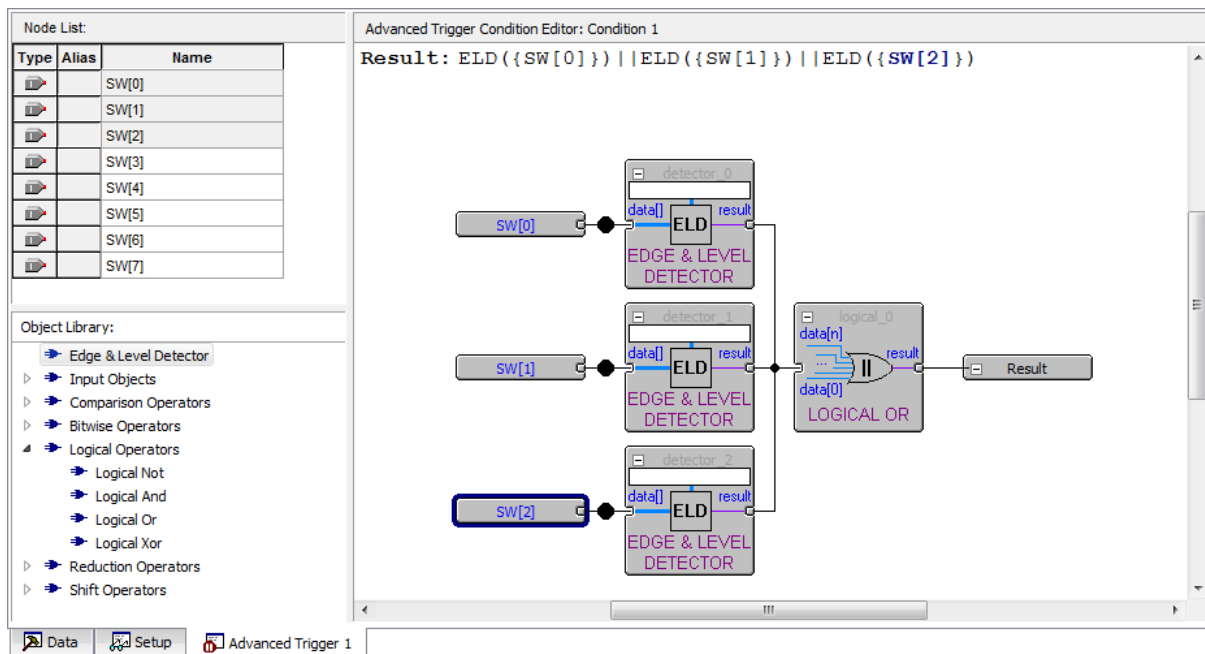

Figure 20. Arrange the elements to create a circuit that looks like this.
6. In the object library click Edge and Level Detector and drag this into the editing window. Do this three times and then arrange the circuit as in Figure 20. The three inputs should each be connected to the input of an edge and level detector and the output of each of these detectors should be connected to the input of an OR gate. The output of the OR gate should be connected to the output pin already in the editing window.